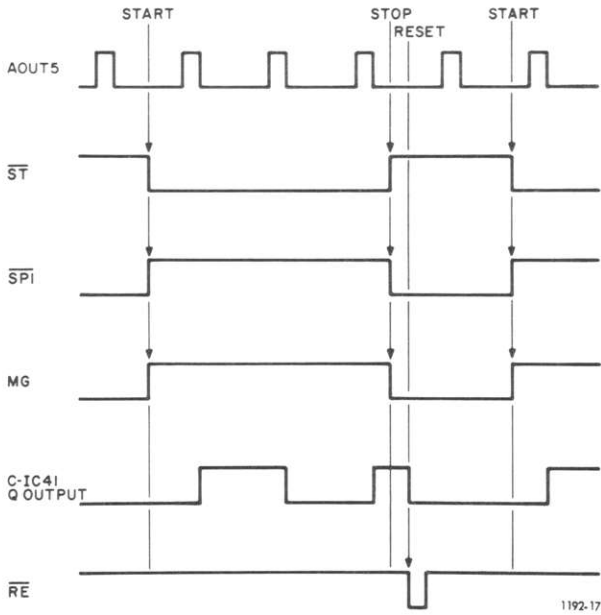

Figure 4-7. Count mode timing diagram.
**Start.** When the count button is depressed (START, Figure 4-7),  $\overline{ST}$  goes to 0 and the main-gate output signal (MG) goes to 1 (gate open). At this point, the counting decades start counting the INPUT A signal AOUT5. The